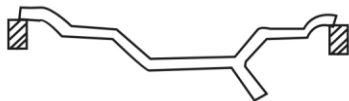

Fig. 7
4.4.1 DYN balance mode (shown in Fig. 7)